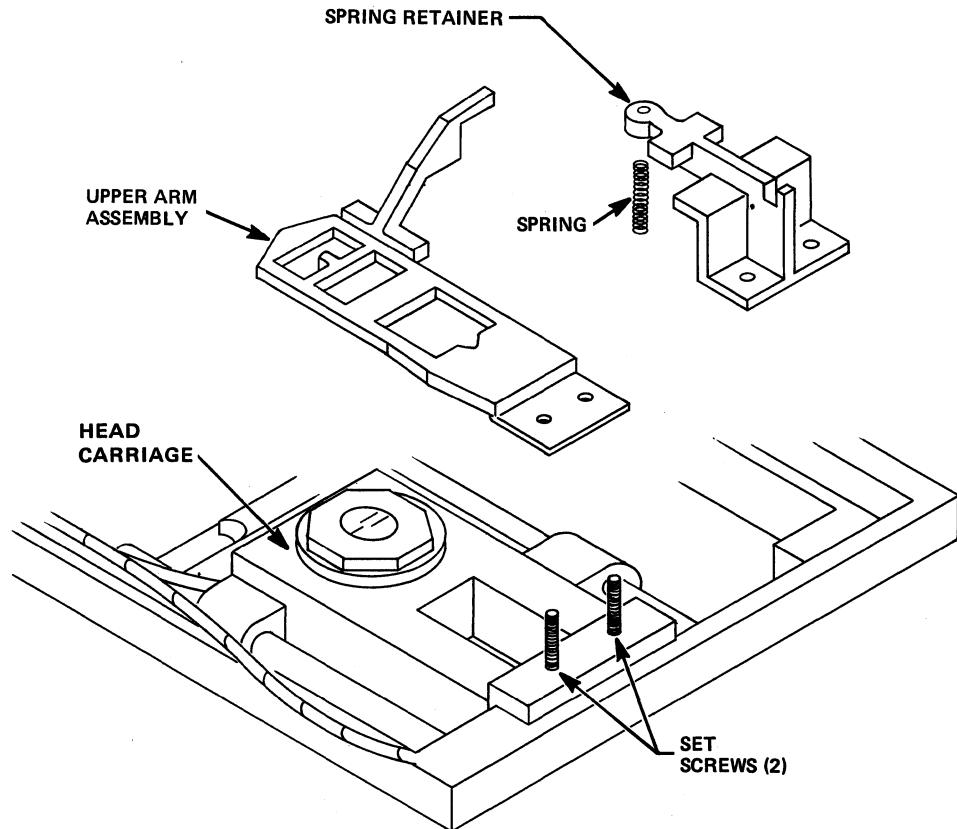

Figure 5-27
- 5.13.4 Carefully lift off the spring retainer and spring (see Figure 5-27).
- 5.13.7 Carefully replace the spring and spring retainer (see Figure 5-27).
- 5.13.10 Tighten the two (2) set screws (see Figure 5-27).